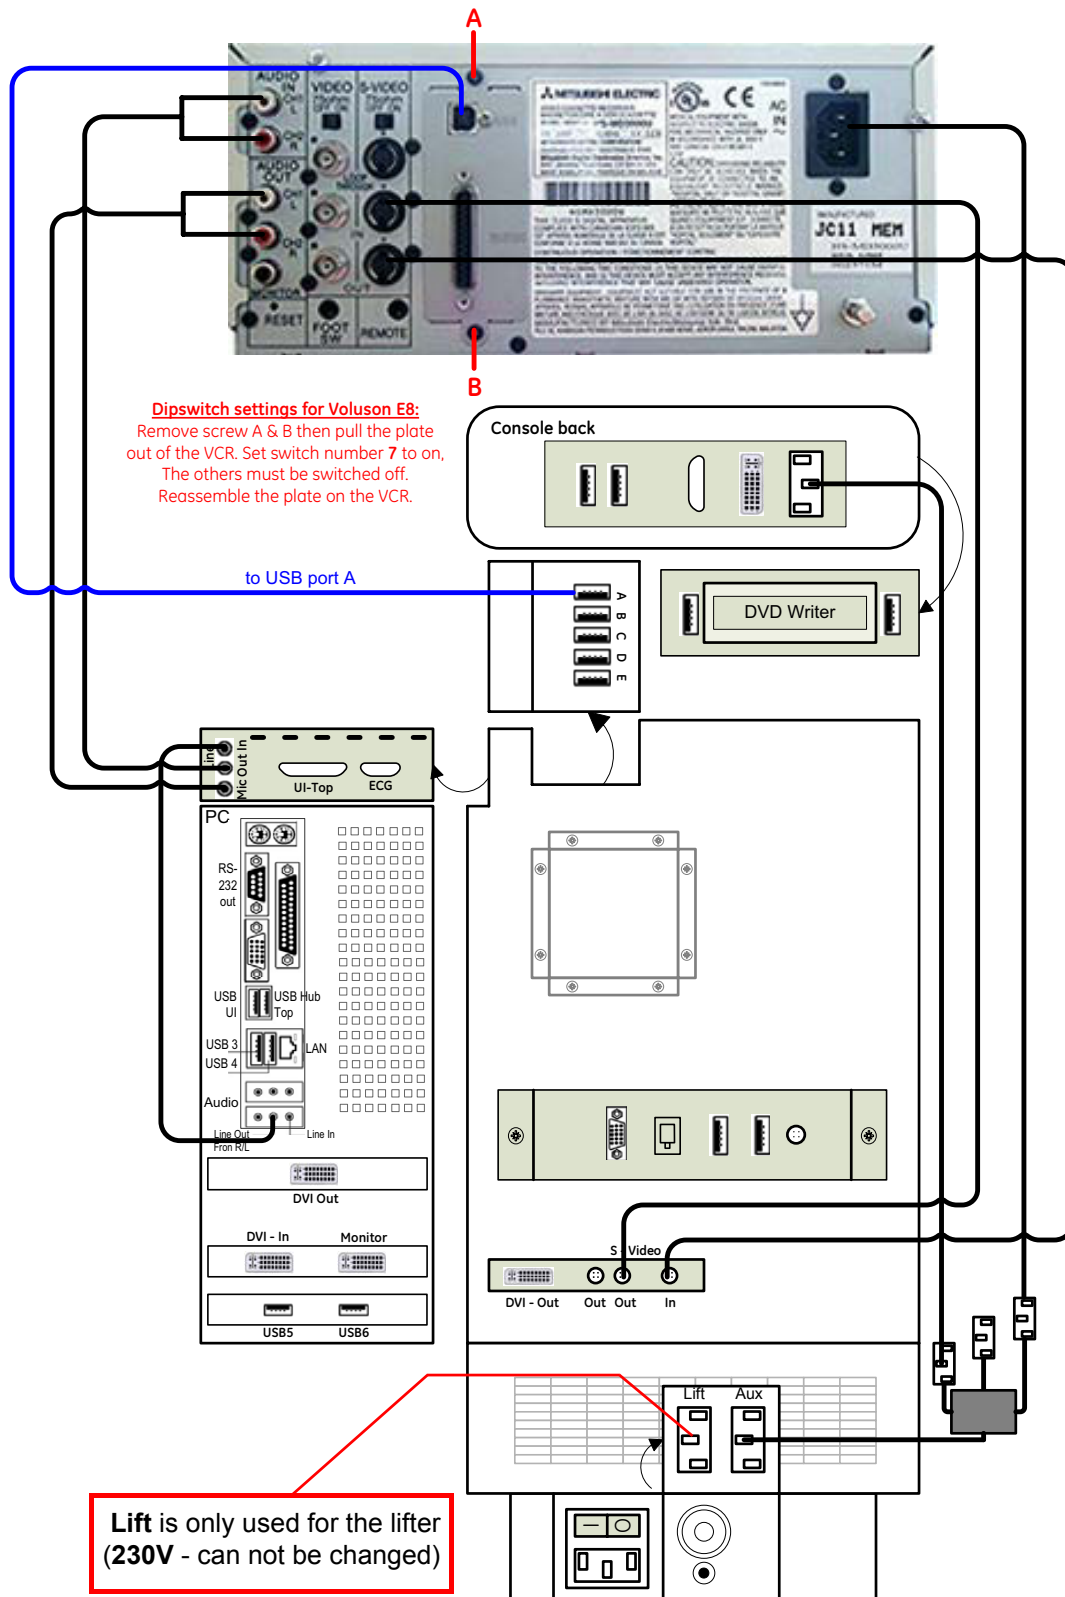

Figure 3-21 Video Recorder connection (BT08: DFI Dual-core PC-Motherboard installed)
- if "**DFI Dual-core**" PC-Motherboard is installed, see: Figure 3-21 on page 3-28.